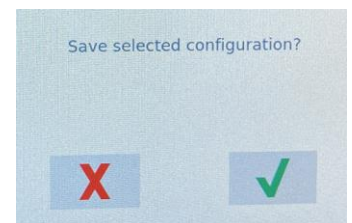

Figure 20
- k) The controller displays "Save selected configuration?" Press the green checkmark button to continue (see Figure 20). If another display on the cabinet needs to be configured, repeat steps 21a-21k on that display.